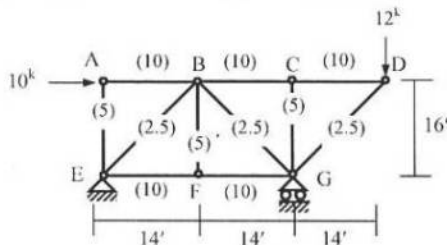

Fig. 3
3. Use Virtual Work Method for Fig. 3 to determine the relative deflection of joints A and G along line AG due to (i) Applied load, (ii) Rise in temperature of 50°F in top members and fall in temperature 25°F in bottom chord members. Parenthesis values indicate area of members in square inches [Given, $E = 30 \times 10^3$ ksi, $\alpha_t = 1/150000/^\circ\text{F}$].